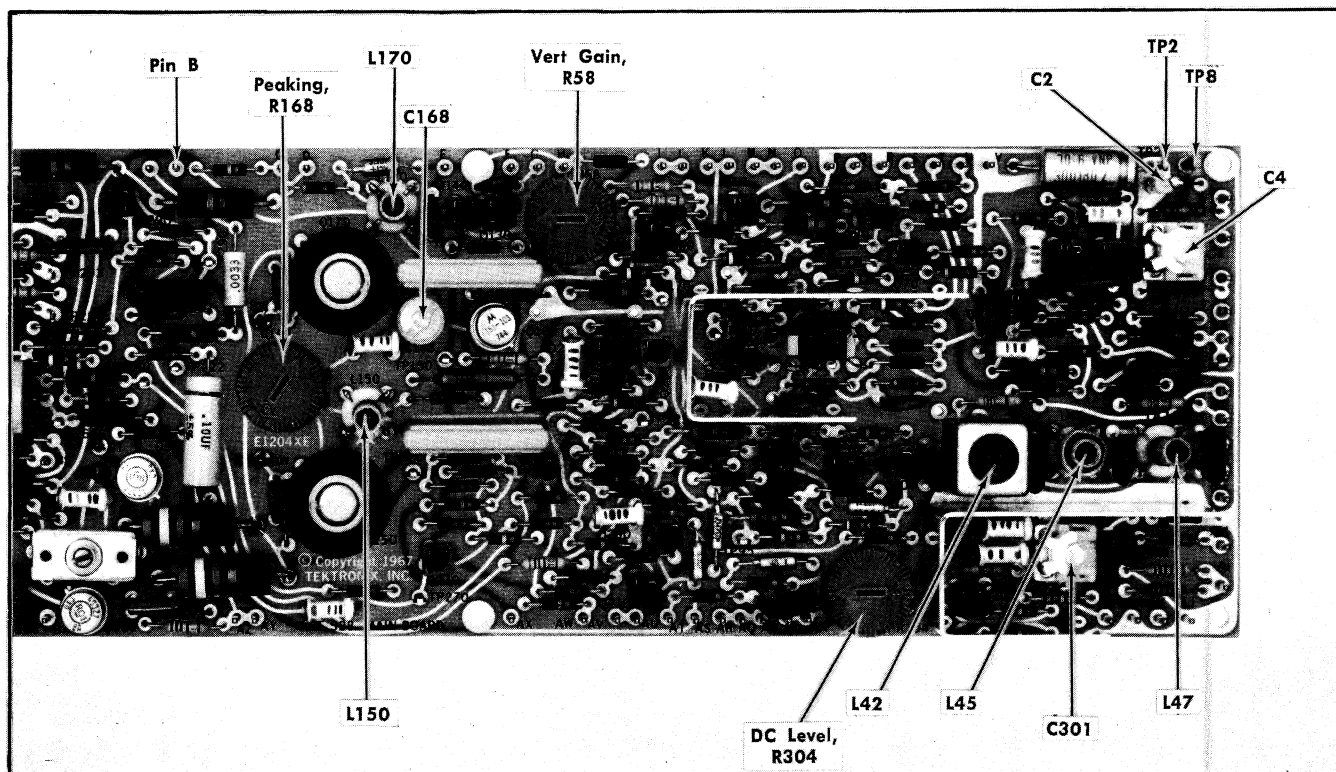

Fig. 5-7. Main board test point and control locations.
c. CALIBRATION ADJUST—Vert Gain control, R58, (see Fig. 5-7) until the square-wave display is exactly 140 IRE units high.
- Short together test points TP2 and TP8 on the main board. See Fig. 5-7.
15. Adjust/Check Instrument Return Loss ①
g. CALIBRATION ADJUST—C4; see Fig. 5-7, for a test oscilloscope displayed \sin^2 pulse to bar signal ratio of 0.99:1.01 or less.
i. CALIBRATION ADJUST—C168, Peaking R168, L150 and L170 controls (see Fig. 5-7) for the correct \sin^2 pulse and bar signal presentation as viewed on the Type 528.